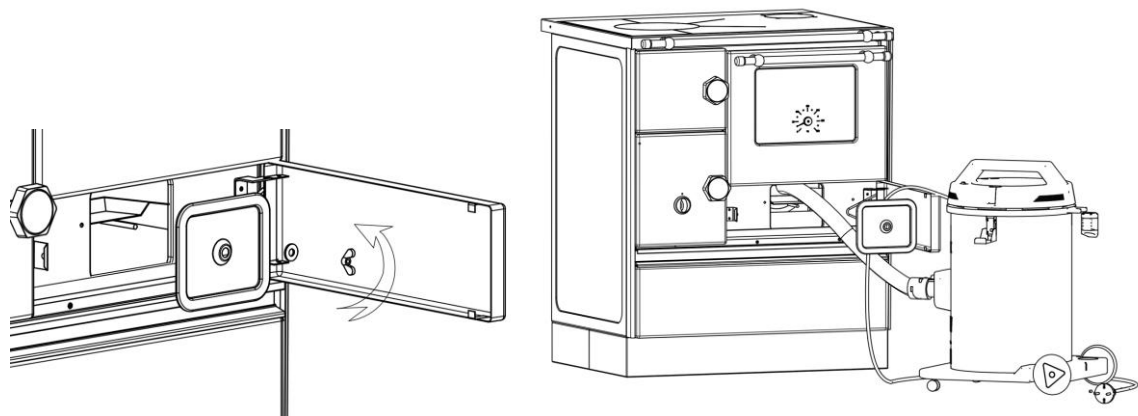

Figure 19
- Cleaning soot and deposits on the upper part of the oven (area with exhaust gases passing through) is preferable to be done once or twice in the season (Figure 19).